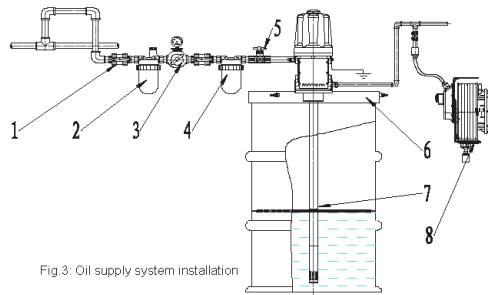

Fig. 3: Oil supply system installation
5.2.1 Typical installation: Refer to fig.3:
5.2.2.2.1 Install a pump on drum cover (see fig.3 part 6) and then to barrel.
5.2.2.2.2 On the main line of air compressor, connect bleed-type master air valves which controls on and off air motor (see fig.3 part 2)
5.2.2.2.3 Install an air line filter (see fig.3 part 2) to remove harmful dirt and contaminants from your compressed air supply.
5.2.2.2.4 Install the air regulator to control pump speed and pressure. (See fig.3 part 3)
5.2.2.2.5 Install an air line regulator for automatic air motor lubrication (see fig.3 part 4).
5.2.2.2.6 Install a pump run-away valve to shut off the air to the pump if the pump accelerates beyond the pre-adjusted setting. A pump that runs too fast can be seriously damaged. (See fig.3 part 5)